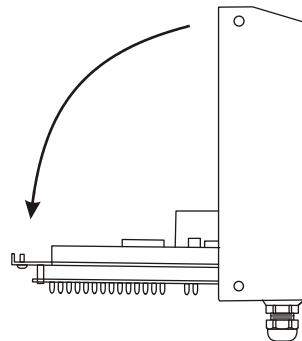

Figure 2.5 Electronics plate down
2. Slowly, allow the electronics plate to swing down. The controller board and power supply board are now accessible for installation, wiring and service. See Figure 2.5.